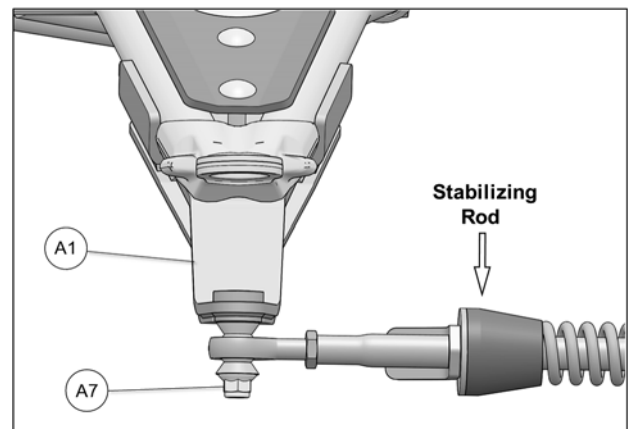

Fig. 22
13. Torque nut (A7) securing stabilizing rod to anchor bracket (A1) to 70 N•m [52 lb•ft]. See to Fig. 22